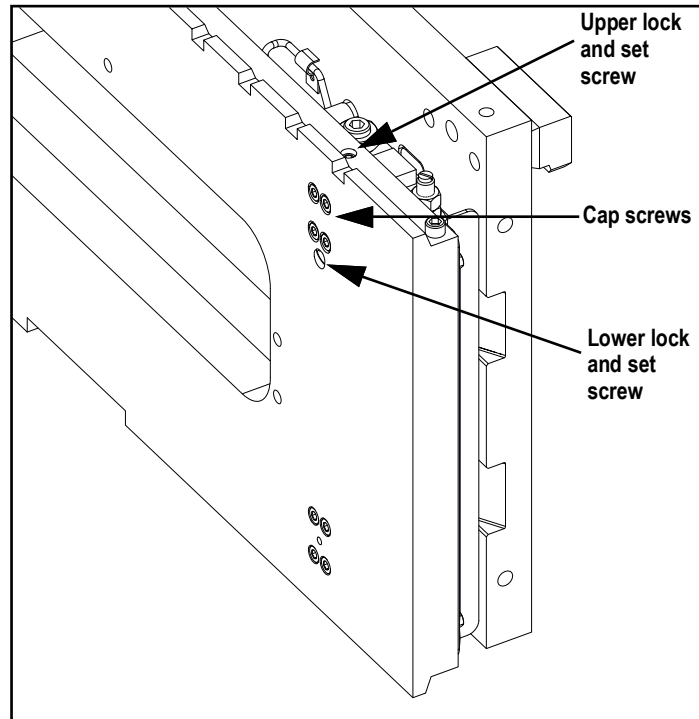

Figure 8-12. Loosen Upper Set Screw Lock
9. Loosen the four upper hex socket head cap screws about one turn (see Figure 8-12).
10. Loosen the upper set screw lock (see Figure 8-12).
12. Adjust the set screw (see Figure 8-12):